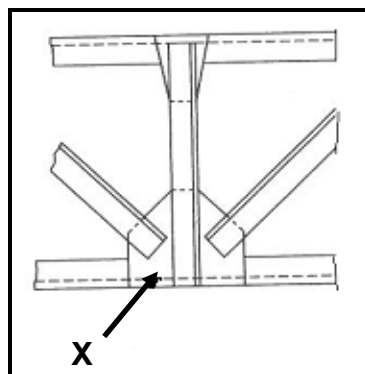

**FIGURE 4.1**
4.1 FIGURE 4.1 below shows a section of a plate girder. Identify part Y.